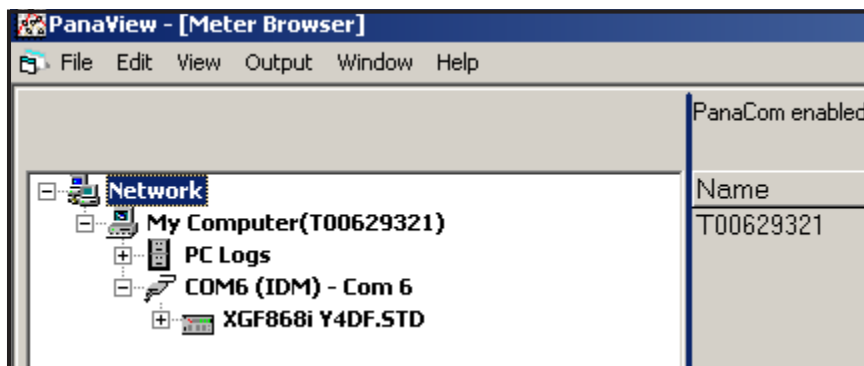

Figure 17: The Text Display Window
2. Using the *Window* menu, as described in the *PanaView User's Manual*, arrange the open windows in the desired format. For this discussion, Figure 17 below shows the *Text Display* window in its maximized (full-screen) size.
5. Before actual data values can be displayed in the text pane, activate one of the following data collection modes (see *Figure 17 on page 48*):